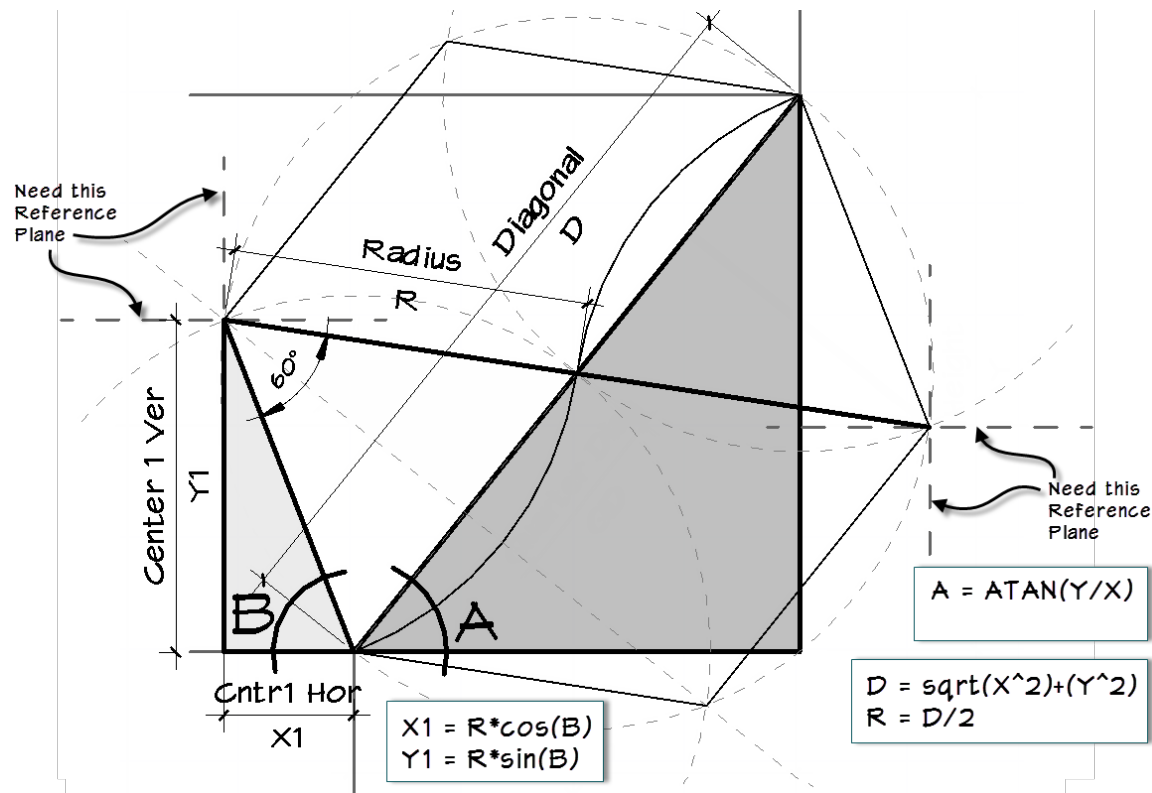
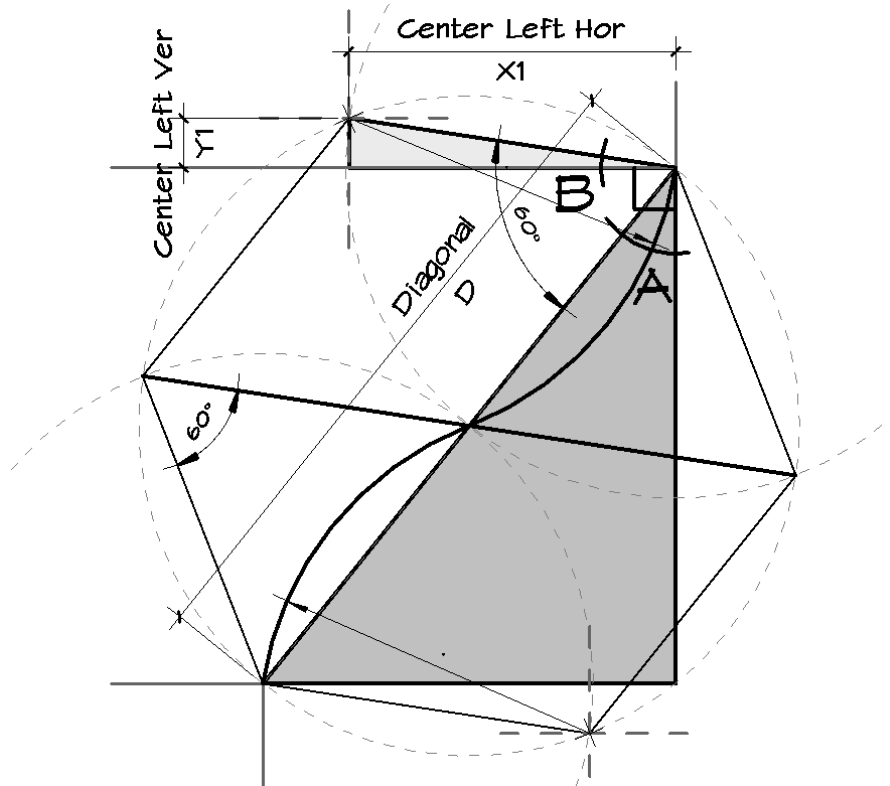

Figure 41—Applying trigonometry to locate the required Cyma reference planes
Figure 44—Cyma Reversa Construction
It just so happens that this construct also can create a regular hexagon whose vertices intersect the circle at these points. Compare the gray dashed construction arcs in Figure 41 with the superimposed hexagon. A regular hexagon can be divided into six equilateral triangles. The sides of these triangles are each equal to half the length of the diagonal (between the height and depth). This distance (the side of the equilateral triangle) is the radius of the arcs used for the cyma and cyma reversa profiles.
The Cyma Reversa is essentially the same shape just with the arcs reversed. So all we need to do to create one is save the Cyma family with a new name and redraw the arcs facing the opposite direction. However, the formulas do need adjustment due to the changed locations of the arc center points. The overall strategy and form is largely similar (see Figure 44). You can try your hand at one if you like, or you can simply open the example provided here.
The critical angle is angle B. There are two known angles in its vicinity, the right angle between the reference planes X Max and Y Max and the angle between the diagonal and the top edge of the implied hexagon. The diagonal, as we saw above, is derived from the Height (Y) and Depth (X) parameter inputs and the Pythagorean Theorem. As the diagrams in Figure 41 (above) and Figure 44 illustrate, the diagonal's endpoints form two vertices and becomes the bisector of an implied hexagon. The hexagon's other four vertices determine the locations of the center points of the arcs of Cyma and Cyma Reversa curves. Since a regular hexagon is easily divided into six equilateral triangles, we also know that the angle between the diagonal (bisector) and the hexagon's top edge is 60° . These known angles make it easy to calculate angle B, which in turn gives us the values X1 and Y1 and the locations of the required reference planes.